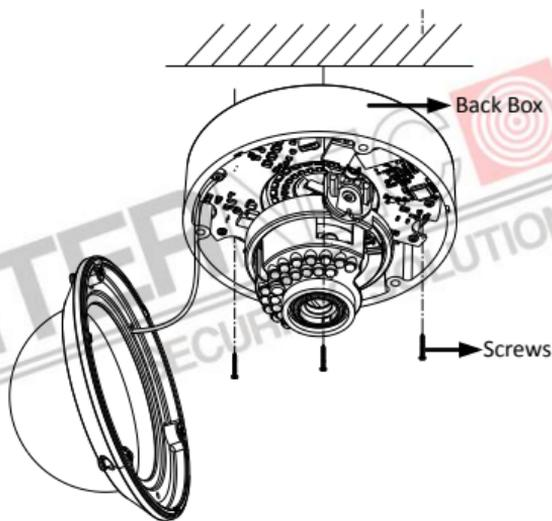

Figure 2-3 Secure the Camera
- Secure the camera with the supplied screws as shown in Figure 2-3.